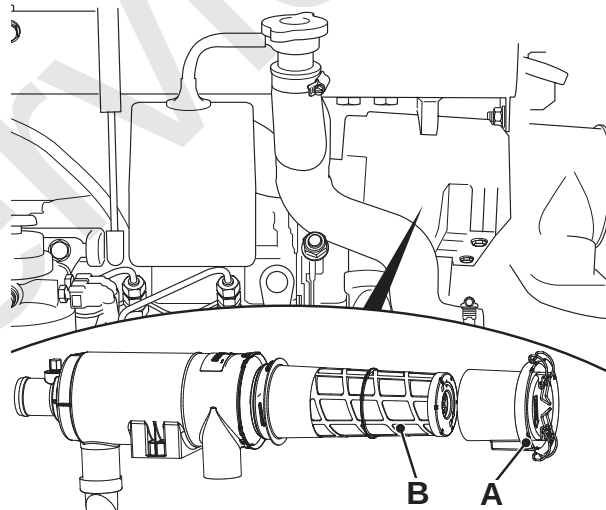

Fig 88.
- 2 Undo the two retaining clips holding the cover **A** and remove the element **B** by twisting anti-clockwise. Do not tap or knock the element as you remove it. ⇒ Fig 88. \(□ 230\).